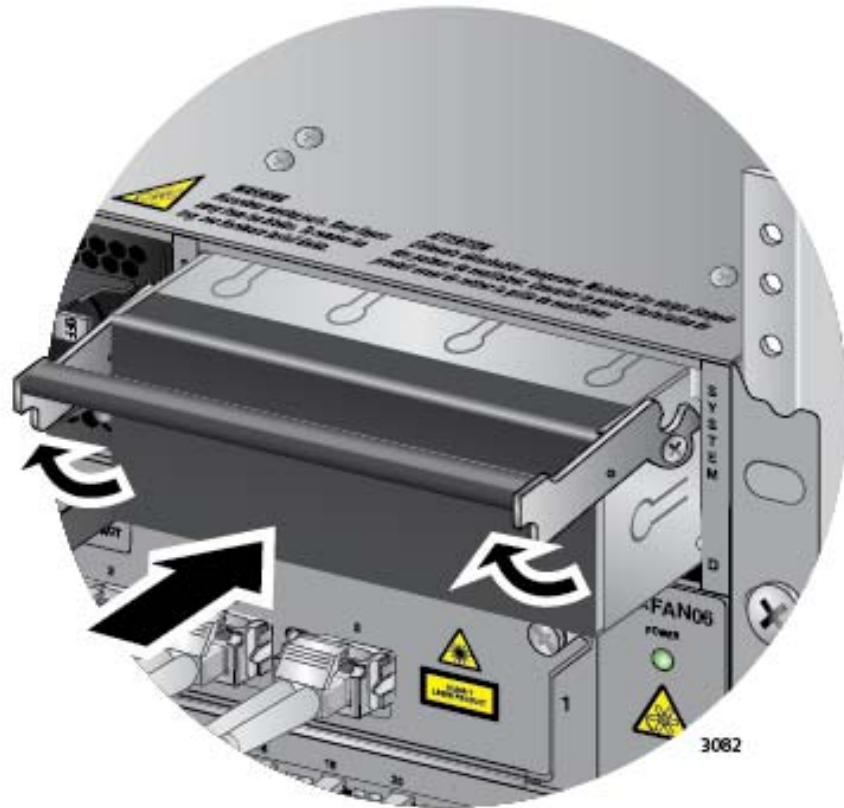

Figure 161. Installing a Blank Power Supply Slot Cover
13. Place the locking handle on the slot cover in the up position and slide the cover into the empty power supply slot. Refer to Figure 161 on page 246.